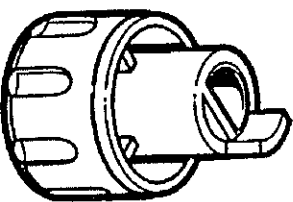

Figure 3. Volume Control-Only Knob
2. Choose the volume control-only knob (refer to Figure 3).